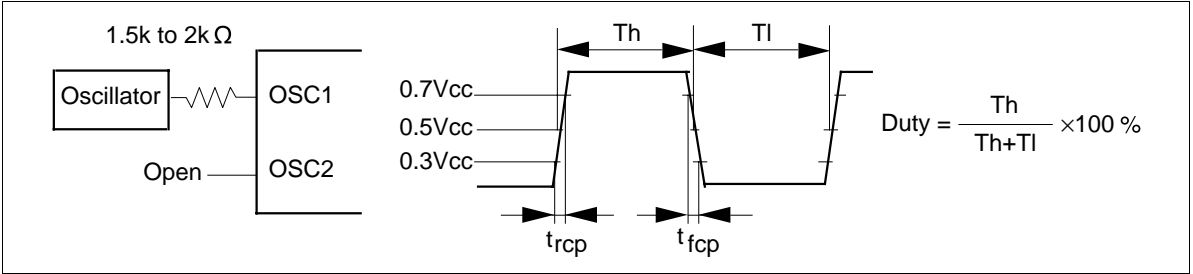

Figure 43 External Clock Supply
- 10. Applies to the external clock input (figure 43).